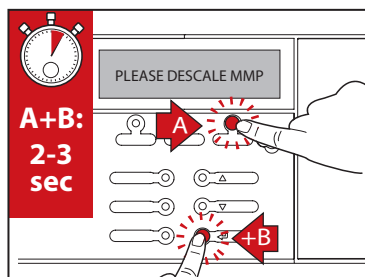

Fig.1
1. The cleaning message may be displayed on the coffee machine's touchscreen (See Fig.1) alerting that the milk system must be cleaned, if so close the alert, if not simply proceed as follows.
1. Press ENTER and STOP simultaneously (for push-button versions), or by pressing START (touchscreen versions) to enter the cleaning menu (See Fig.1).